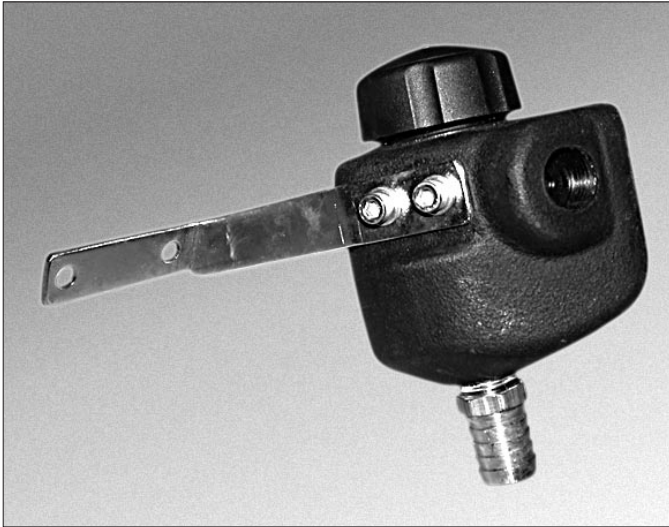

Fig. 12-a
- B. Using the supplied 1/4"-20 x .50" SHCS screw and washers attach the supplied surge tank to the supplied surge tank-mounting bracket. (See *Fig 12-a.*)